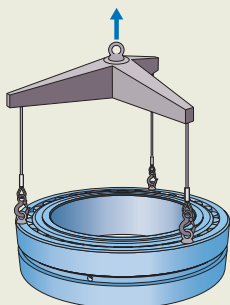

Fig. 10
- sensors – e.g. to aid mounting (fig. 10) or for monitoring speed and direction of rotation (fig. 11)